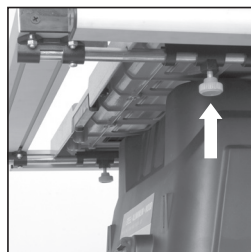

FIG. 28
- Loosen the two locking knobs (one to the front and one to the rear of the machine) underneath the LH side of the machines table. **(Fig. 28)**